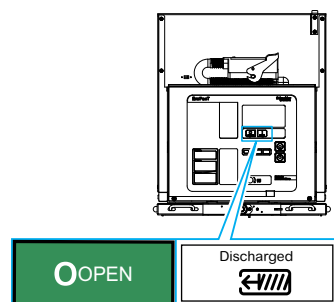

Figure 72
- The VCB is closed/off, discharged and in disconnected/test position. Refer to Figure 72.
3. Check the device indicators and, if necessary, operate the circuit breaker mechanically to place it in the OFF and discharged position. Refer to Figure 72 in Insertion of the EvoPacT HVX VCB into the Cubicle, page 80.